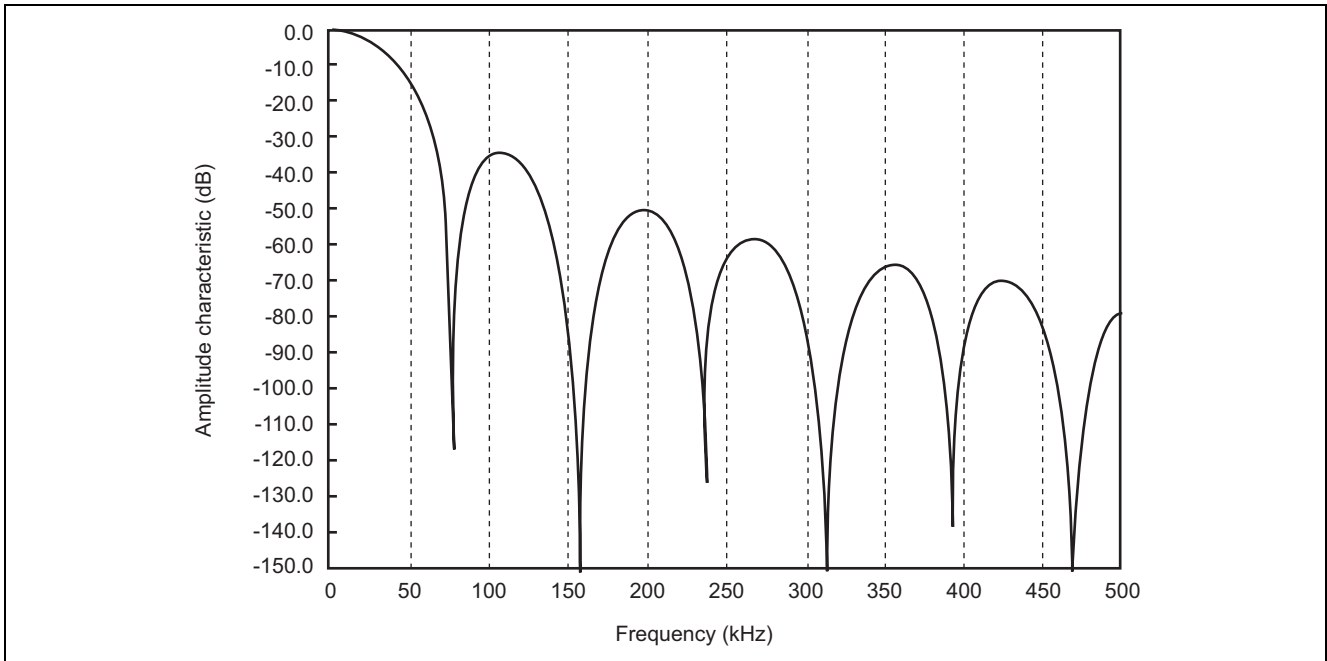
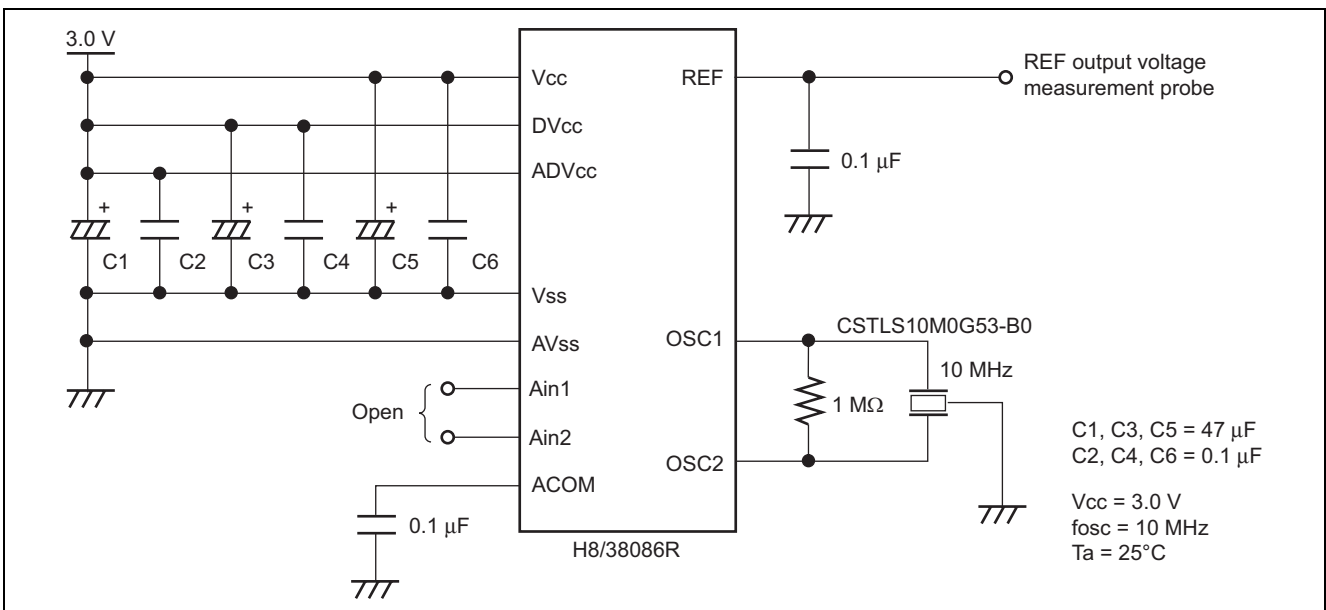

Figure 7.2 Frequency Characteristics of the Digital Filter for the H8/38086R $\Delta\Sigma$ A/D Converter (Oversampling Frequency: 10 MHz) (1)
Figure 7.5 REF Voltage Output Characteristic
Figures 7.2 and 7.3 show the frequency characteristics obtained for the transfer function with an oversampling frequency of 10 MHz.
157, 158	Section 7.3 Frequency Characteristics of Digital Filter Added figure 7.2, Frequency Characteristics of the Digital Filter for the H8/38086R $\Delta\Sigma$ A/D Converter (Oversampling Frequency: 10 MHz) (1). Corrected the value of resistance (1 MHz) in figure 7.5, REF voltage output characteristic, to 1 M Ω .